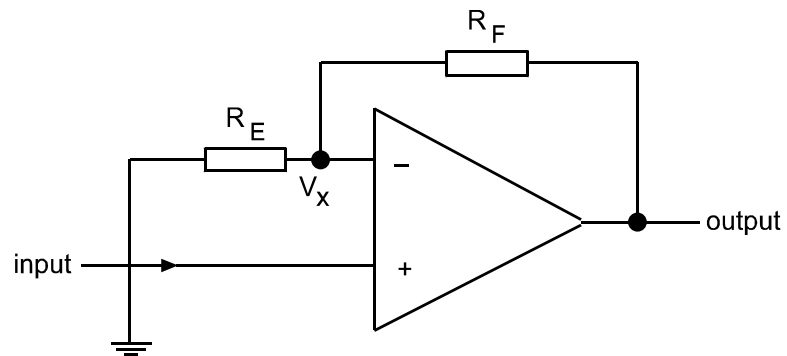

Fig 9.8
2. The second basic circuit is formed from the closed-loop feedback arrangement as in fig 9.7, but the input is now the non-inverting input as shown in fig 9.8.